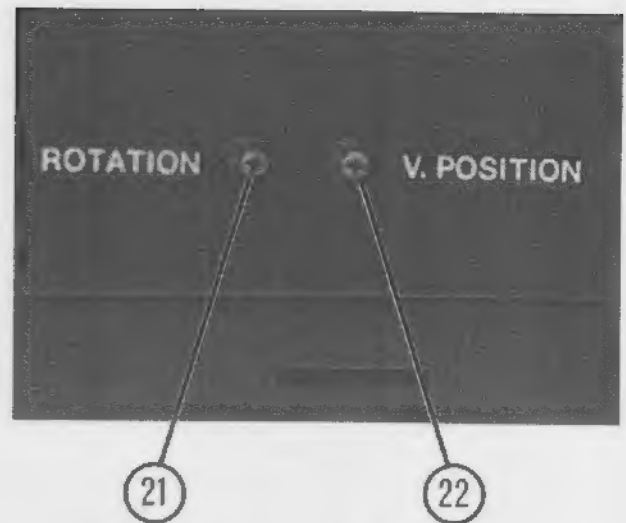

Figure 2-3. Side view, waveform monitor side
Refer to Figure 2-3 for references (21) and (22).
- (21) **ROTATION** control